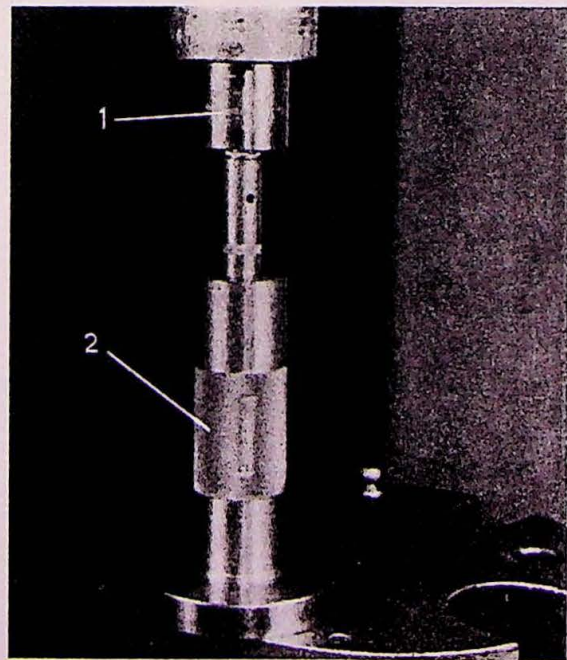

Fig. 19.
4. Fit washer (3) on splined end of pedal shaft with aid of driver SVO 4082 and support SVO 4142, fig. 19. Fix locking spring (2) in position outside the washer. Lubricate clutch pedal bushing. Fit the narrow rubber ring (4) on the outside and the rubber casing (6) on the frame facing side of pedal. Fit clutch pedal on shaft (7) and push shaft into position in frame. Fit a rubber ring on the frame facing side of brake pedal. Lubricate bushing and fit pedal on shaft. Fit brace rod (11). Press the whole assembly together by means of clamp SVO 4084, fig. 20, and fix locking spring (12).
5. Fit lubricant nipple (1) at clutch pedal side and brass plug (13) at the opposite end. Lubricate with chassis lubricant.